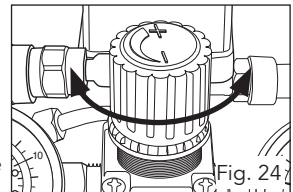

Fig. 24
3. You can adjust the level of output pressure by turning the pressure regulating knob (8). To increase the air pressure, rotate the regulating knob clockwise. To decrease the pressure, rotate the regulating knob anti-clockwise (Fig. 24).